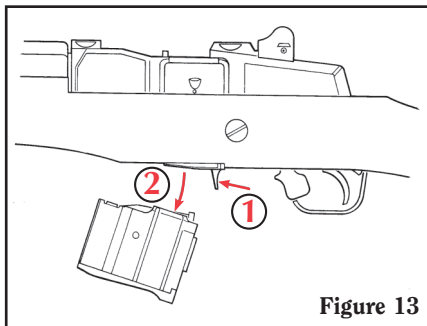

Figure 13
(STANDARD MINI-14® RANCH RIFLE SHOWN IN FIGURES 13 - 21)
1. With the rifle pointing in a safe direction, safety “ON,” remove the magazine by pushing catch forward to release magazine, while drawing magazine down and forward (see Figure 13).